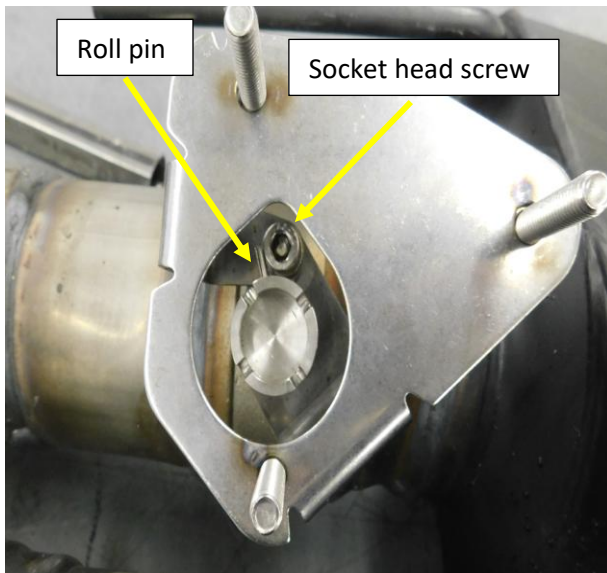
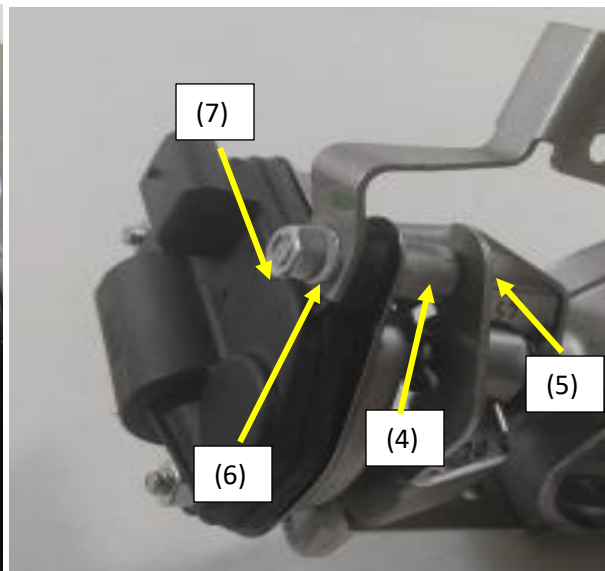

Figure.6
Figure.7
3. Transfer the valve assemblies to the Flowmaster exhaust using the supplied hardware. **Fig .7**
- Rotate the Flowmaster exhaust valve so that the valve blade is in the fully open position and the roll pin on the valve shaft is stopped on the socket head screw. **Fig.6**
- Install the provided $\frac{1}{4}$ x 1.25 bolts (5) with a $\frac{1}{2}$ " spacer (4) between the valve mounting plate and the actuator.
- Install a lock washer (6) and nut (7). See **Figure.7** for correct assembly of hardware. **Important: The valve must remain in the open position when the actuator is installed.**